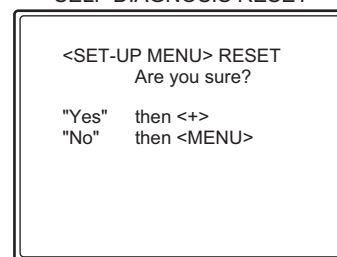

Fig.3
- (1) While press the [MENU] button and [CHROMA/PHASE] button simultaneously, and push the MAIN POWER switch on.
- (2) Then displays the screen as shown in Fig.3. Press the [ + ] key. Then clear the error count of the each item.